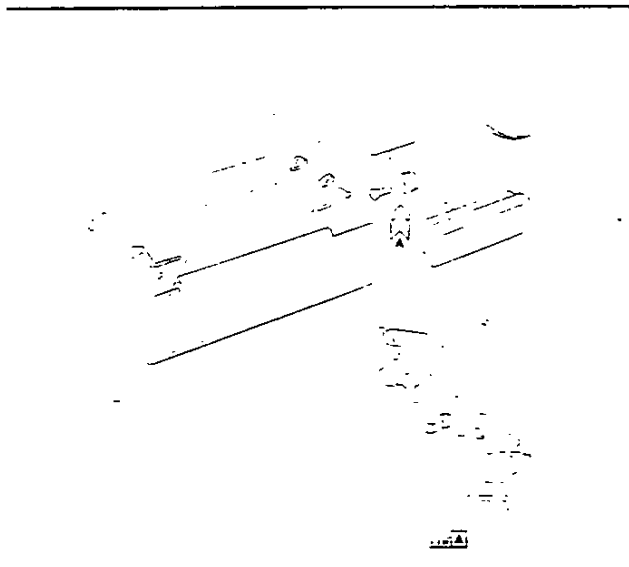

Fig. 12—Sun Visor and Inside Rearview Mirror
Installation of inside mirror is illustrated in Figure 12.
Attachment of sun visor assembly to windshield header is made as shown in Figure 12. Turning of adjusting screw clockwise increases friction.
### WINDSHIELD (Figs. 12 to 16)
4. Remove lower corner reveal moldings (L and R) by removing two (2) screws located at end flanges to fender, and carefully prying out from retaining clips.
5. Remove side retainer moldings (L and R) by removing three (3) screws to frame.
6. Remove side reveal molding (L and R) by removing one (1) remaining screw.
8. Secure one end of steel music wire to piece of wood for handle. Insert other end through caulking material at lower corner of windshield; then secure end of wire to another piece of wood (fig. 12).